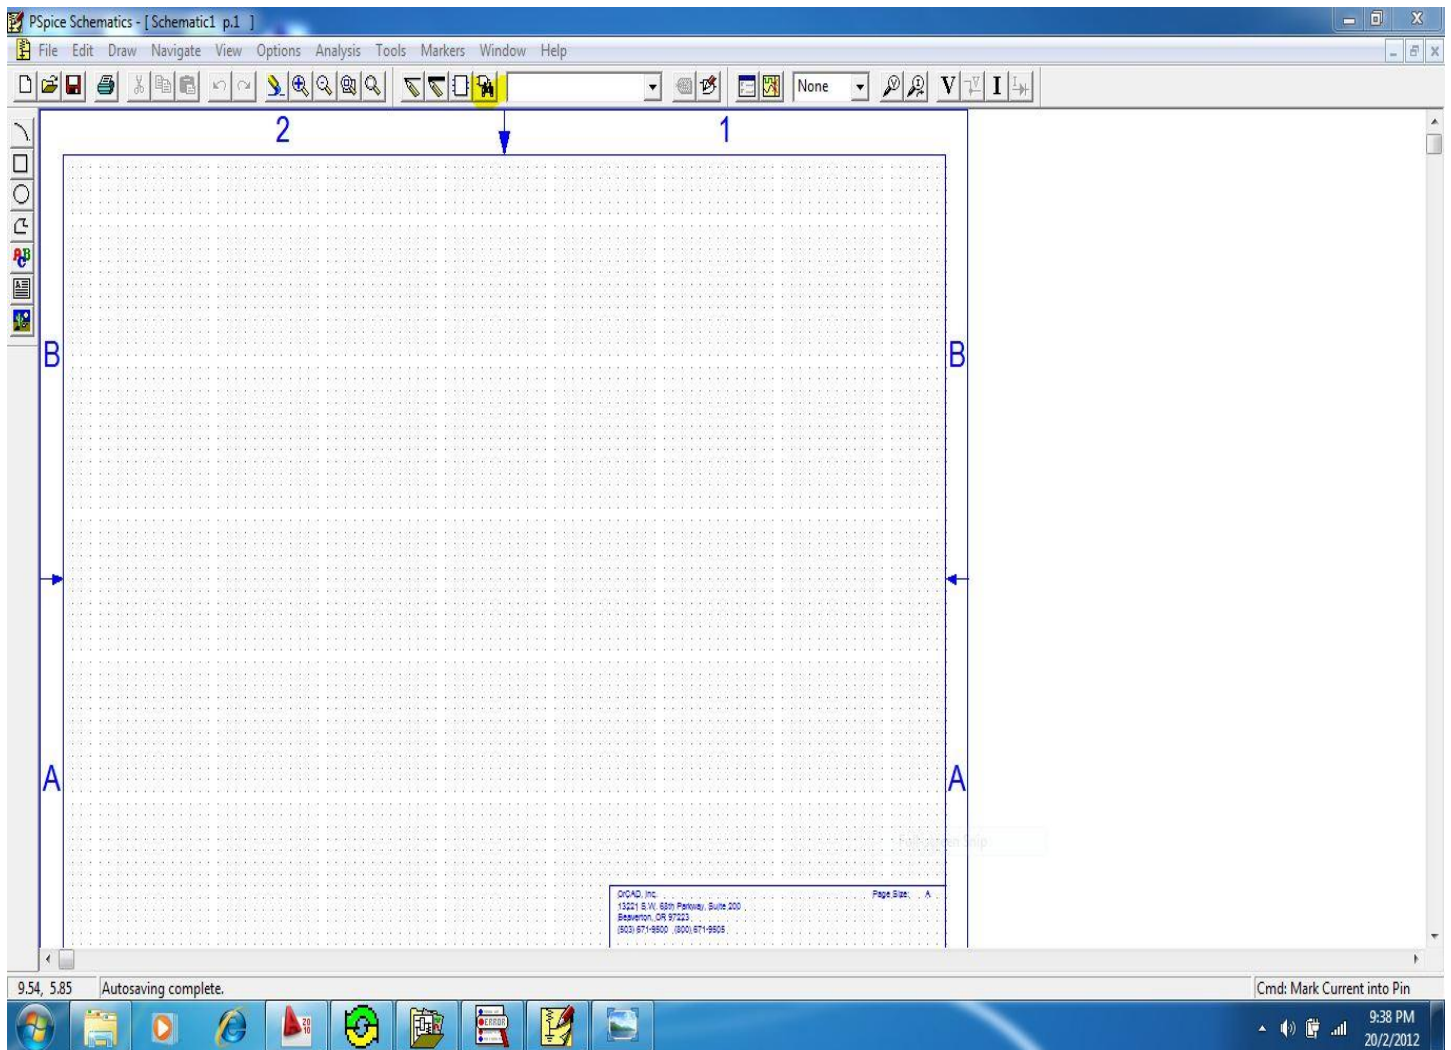

Figure-4
7. The Figure-4 shows **search a part** tool as highlighted by yellow color, by clicking that we can go to the parts list and we can look for a part and select a part and click on **Place** button, the part will be placed on the screen, later on we can move that part to any location, we can place one part after other part, finally when we finish we click on button **close**.